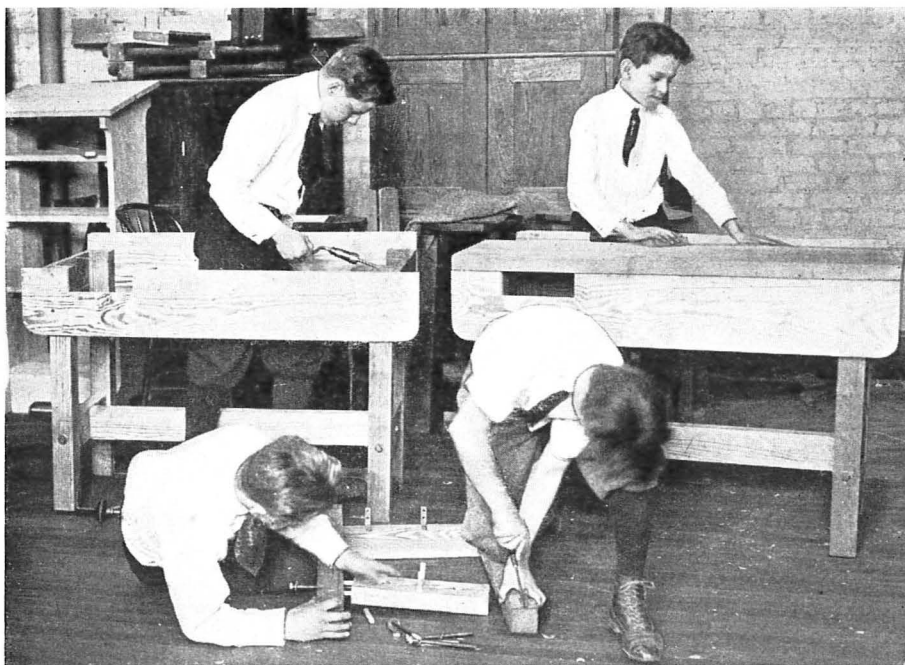

Fig. 7.
Figure 7 shows one group of boys assembling parts. The lower end rail was dowelled and bolted to the legs (G), then the lower stretcher (I) dowelled